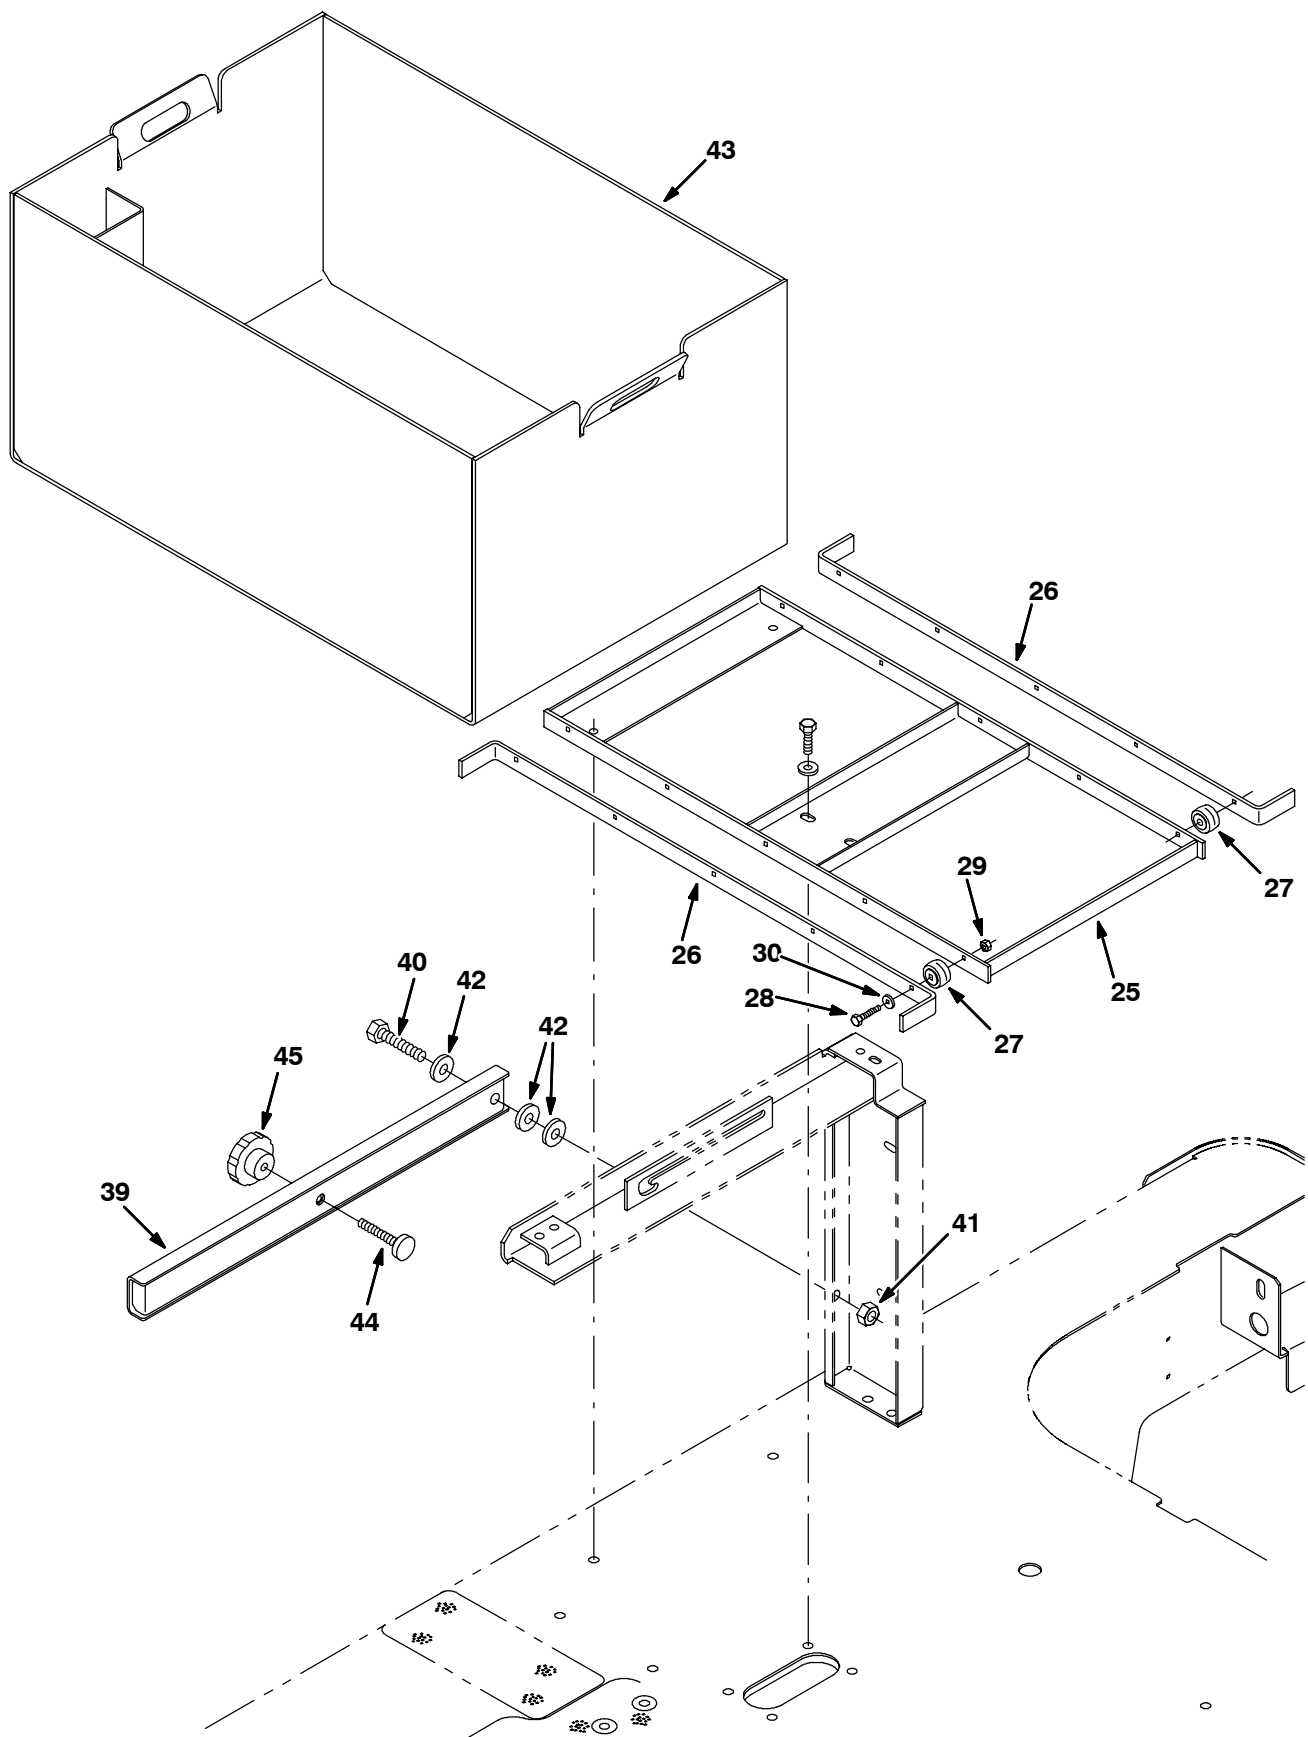

FIG. 8-Rollout Battery Case Group
1. Slide the battery roller assembly under the seat support bracket and mount to the frame with mounting hardware. Refer to Fig. 8.
2. Mount the battery stop arm (39) to the seat brace (34) with hex screw (41), washers (42), and nyloc nut (41). Refer to Fig. 8.
3. Mount the knob (45) to the battery stop arm (39) with leveler (44). Refer to Fig. 8.
6. Insert battery rollout housing (43) into the machine. Close the battery stop arm (39). Turn the knob (45) clockwise until the housing is tight against the backstops. Refer to Fig. 8.